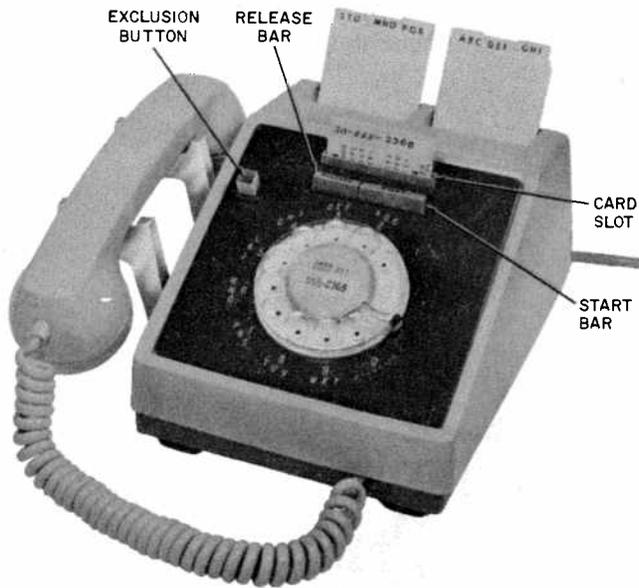

Fig. 1—660-Type Telephone Set
1.01 The 660- and 663-type telephone sets are desk-type, card dialer sets which provide for automatic and manual dialing (Fig. 1 and 2). They are similar in appearance and operation and provide for the following optional features:
2.06 The exclusion feature, if provided, is actuated by pulling up on the plastic button at the top left of the faceplate (Fig. 1). The exclusion switch is connected to the switch hook assembly by a wire link so that exclusion is canceled when the handset is restored.